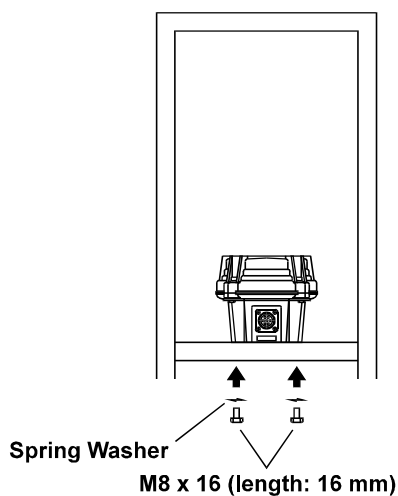

Figure 2
2. Attach the rotator to the tower's rotator mounting plate, using the supplied M8 x 16 bolts and spring washers. It is recommended that the tips of the bolts be lightly dipped in lubricating grease, to ease disassembly in the future (see Figure 2).